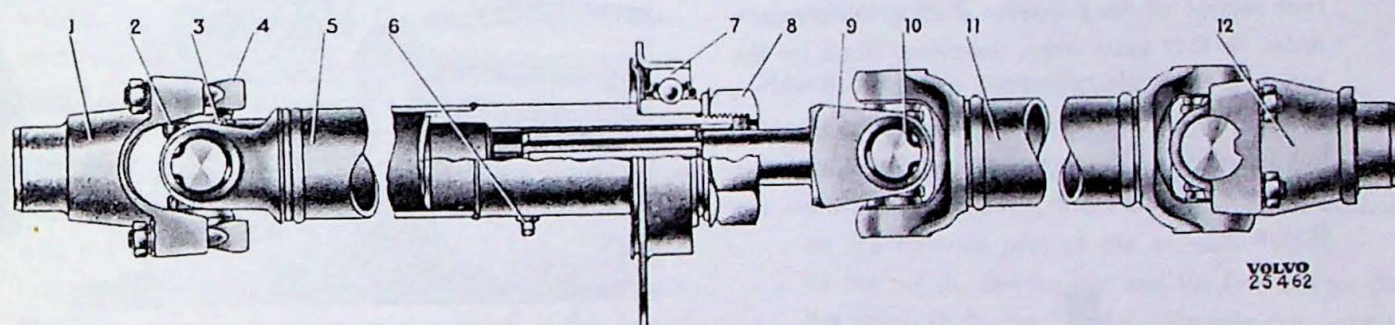

Fig. 4-1. Propeller Shaft
The propeller shaft on the P1800 is of the divided, tubular type, see Fig. 4-1.
1. Jack up the car and block up the front and rear axles. Loosen the clamps retaining the rear universal joint to the rear axle flange (12, Fig. 4-1). Release the lock washer and remove the nut (8). Pull out the propeller shaft to the rear.
2. Fit the nut (8), the washer and the felt washer on the spline shaft, see Fig. 4-8. Lubricate the surface of the slip joint with a thin layer of molybdenum disulphide. Fit together the forward and rear sections of the propeller shaft. **NOTE.** Make sure that the yoke on the forward section of the propeller shaft and the yoke on the spline shaft are correctly lined up, see Fig. 4-1.
<p>Center bearing casing loose on locating pins.                      Center bearing dry or worn.                      Center bearing loose in casing.                      Needle bearings in universal joints dry or worn.                      Metal band for needle bearings on forward or rear universal joints faultily fitted.                      Clamps on flange loose.                      Propeller shaft bent.                      Clicking noise from propeller shaft depending on binding splines.                      Faulty assembly.</p>	<p>Change the rubber bushings.                      Replace the bearing.                      Replace the bearing and bearing casing.                      Lubricate with chassis grease or replace.</p> <p>Fit the band correctly. See Fig. 4-9.                      Replace the spring washers and tighten the nuts.                      Replace propeller shaft.                      Disassemble and lubricate the slip joint with a thin coating of molybdenum disulphide.                      Study the instructions for assembly and fitting. Compare the relative positions of the universal joints with Fig. 4-1.</p>